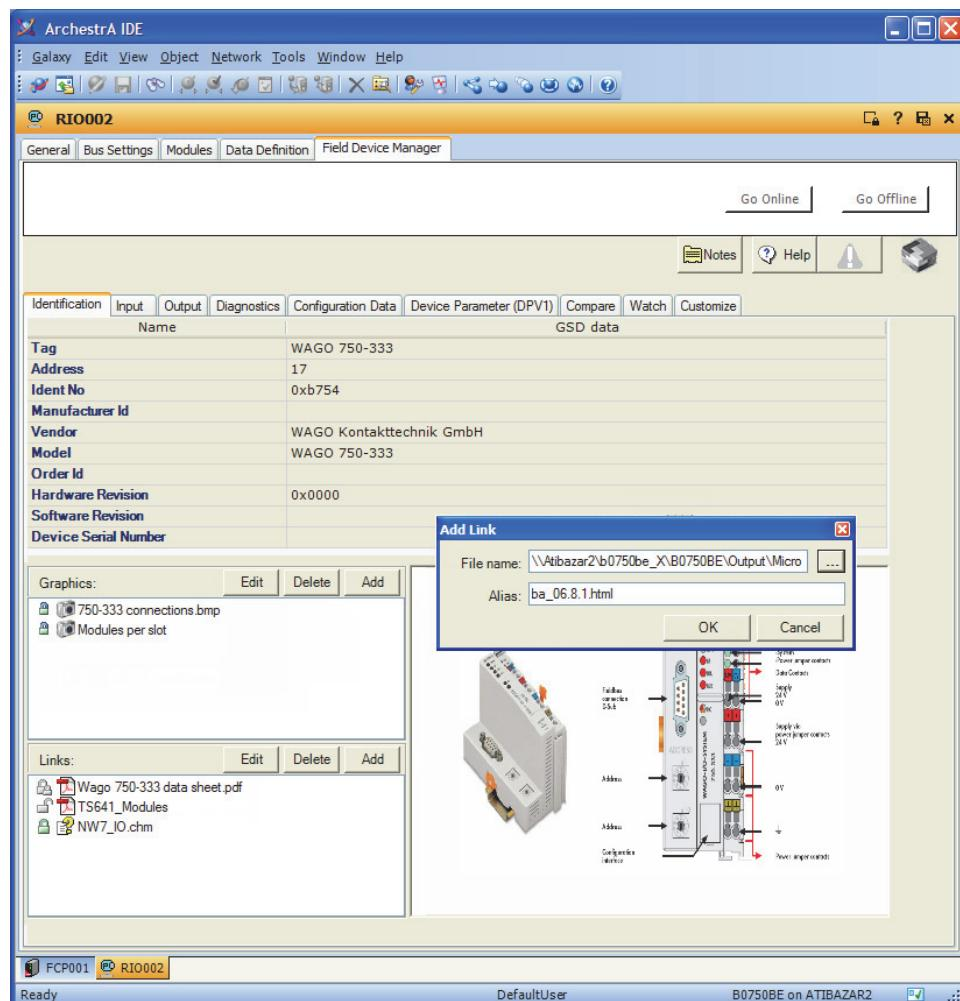

Figure 7. Hyperlinks to Documents and Drawings Can be Made on the Identification Tab
- ▶ Identification tab (Figure 7) displays information about the specific device such as the device manufacturer and type, and hardware and software versions. The tab also provides user-configured links for quick and easy access to any document or image useful in engineering or maintaining the field device. The documents/images can be linked to the Identification tab in the template or a device instance.